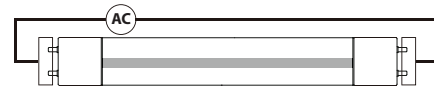

Figure 1. - Double-Ended connection
6. MaxLite LED T8 lamps are designed for double-ended connections (**Figure 1**).